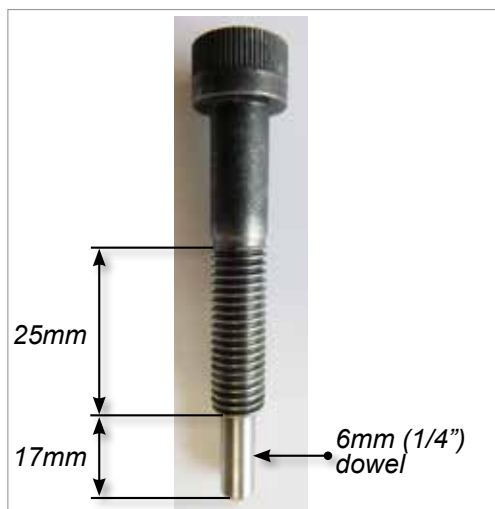

Figure 5-83 M10-1.5 jack bolt (SHCSM10X50-A)
- M10-1.5 jack bolt (SHCSM10X50-A) — see Figure 5-83